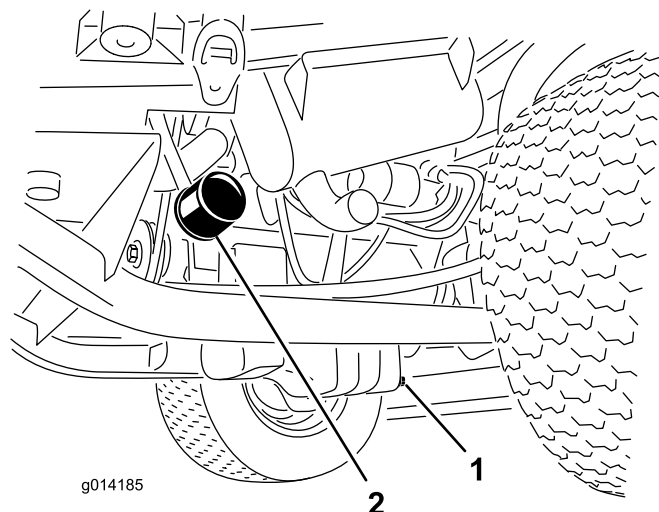

Figure 27
1. Remove the drain plug (Figure 27) and let the oil flow into a drain pan.
3. Remove the oil filter (Figure 27).